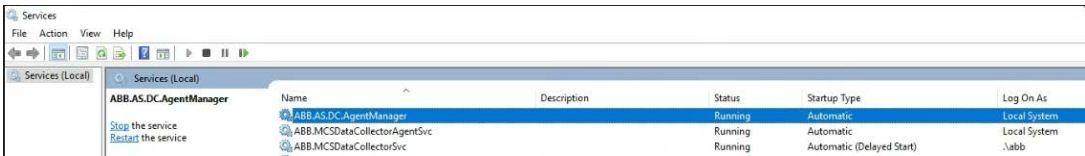

Figure 4.84: Agent Service
- HMISystemNames: Refer Figure 4.84
- ControllerSystemNames: Refer Figure 4.84